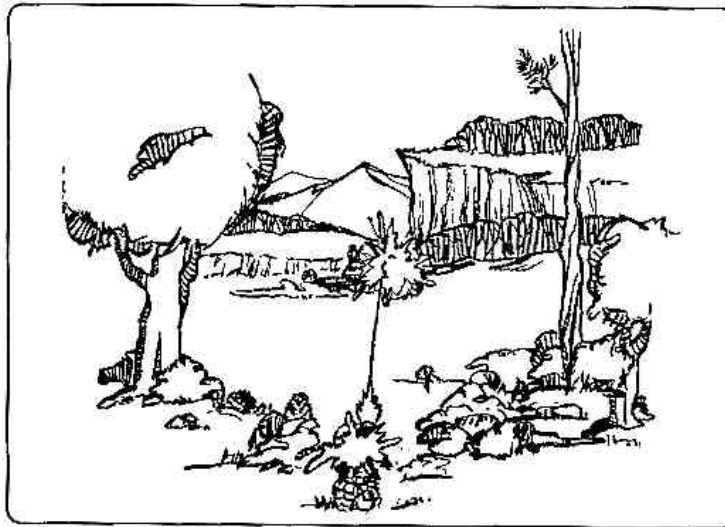

Figure 3-31. Positioning for flank shot.
e. Engagement Techniques. Individual enemy armor vehicles are engaged when there is a high probability of hit or kill. Armor-killer teams are armed with M72s and or AT4s when operating in areas with restricted vision, fields of fire (dense woods), and a mix of M72s, AT4s, and Dragons in areas with intermittent open spaces or LOS down a road. (See Figure 3-31.)